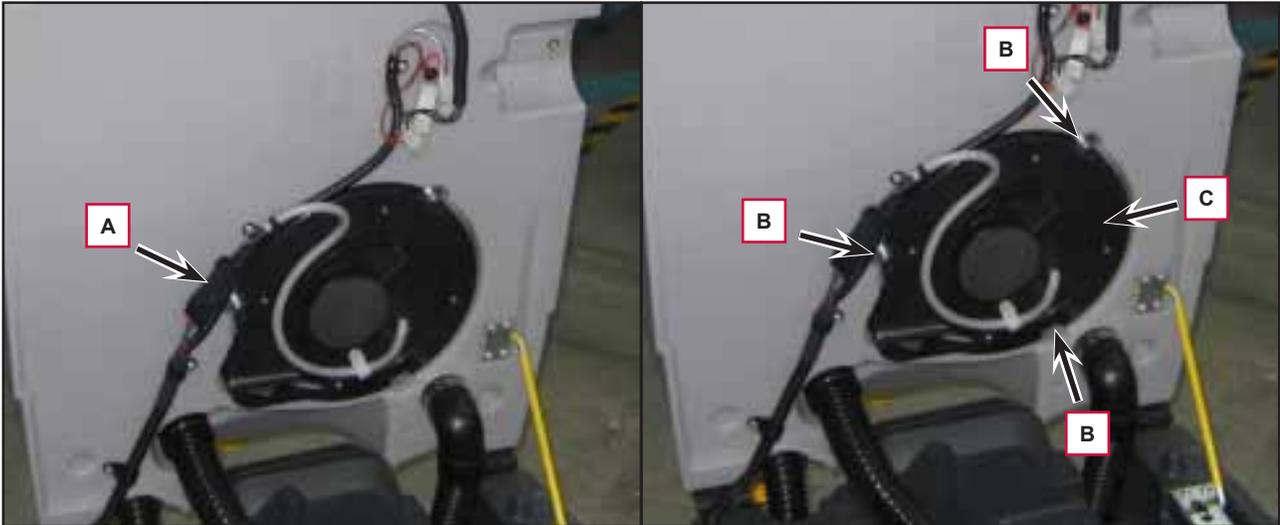

Figure 6
4. Disconnect the connector (A) (Figure 6) and remove the fastening clamp.
5. Unscrew the 3 screws (B) and remove the vacuum system motor unit (C).